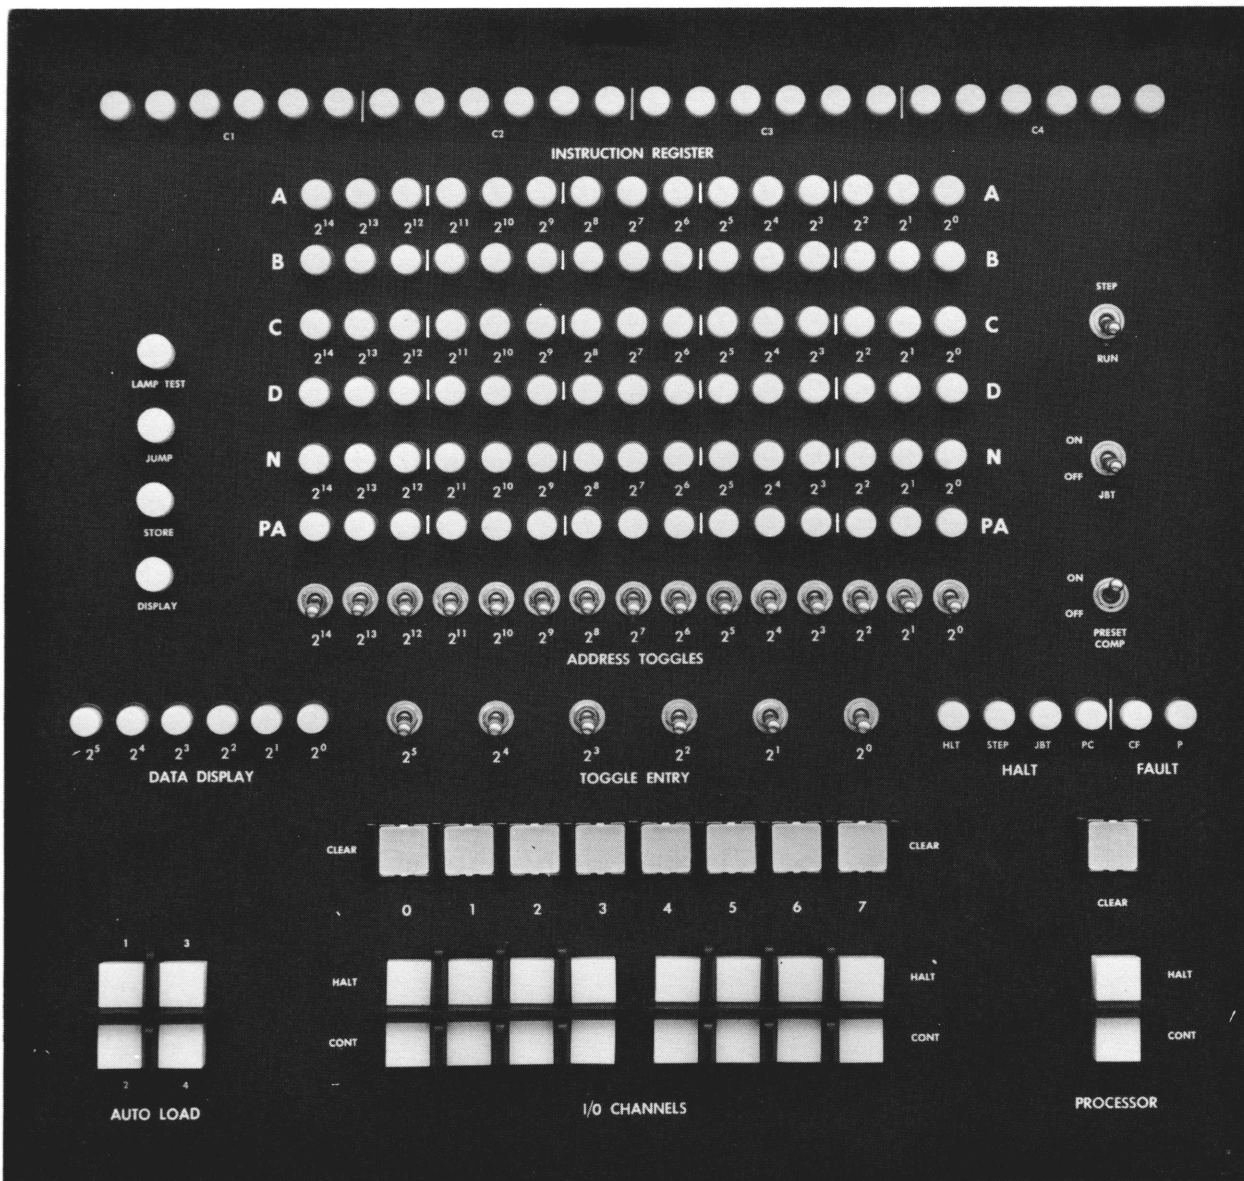

Figure 4. Philco 1000 Operator's Console
Each Philco 1000 Central Processor provides a visual display of the current instruction, the address registers, the N and the Program Address registers, and any selected character. The Operator's Console is illustrated in Figure 4. Controls and indicators not discussed in this section are of interest to operators or maintenance personnel only.
An 'x' in the C2, C3, or C4 columns indicates that that portion of the character is not significant and is not examined by the Central Processor. An 'n' in these columns indicates that the programmer must designate an address or quantity which the assembly program converts to binary and places in these bits. If the Central Processor attempts to decode any instruction whose machine code is not indicated below, the processor will halt and a command fault (CF) will be indicated on the Operator's Console (Figure 4).